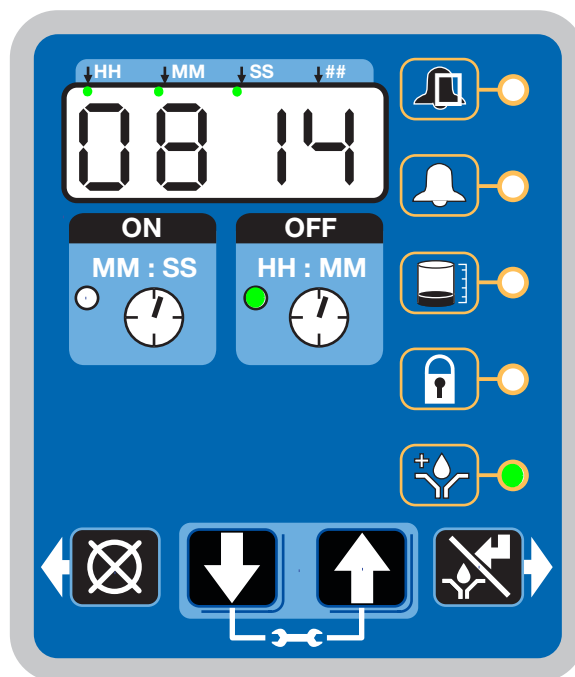

FIG. 34
- The LED next to the clock in the OFF field is illuminated (FIG. 34).
- The Prelube LED lights (FIG. 34).
- The display shows time remaining until lubrication cycle begins. The example shown in FIG. 34 shows 8 minutes and 14 seconds left until a lubrication cycle begins.